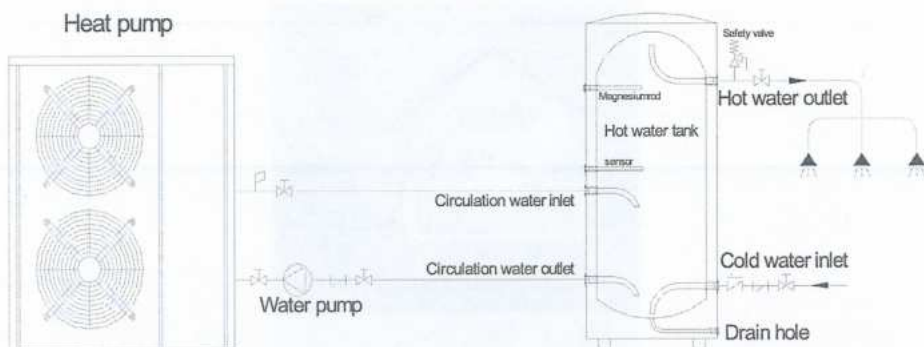

Figure 7
- 1) System installation diagram to see Figure 7.